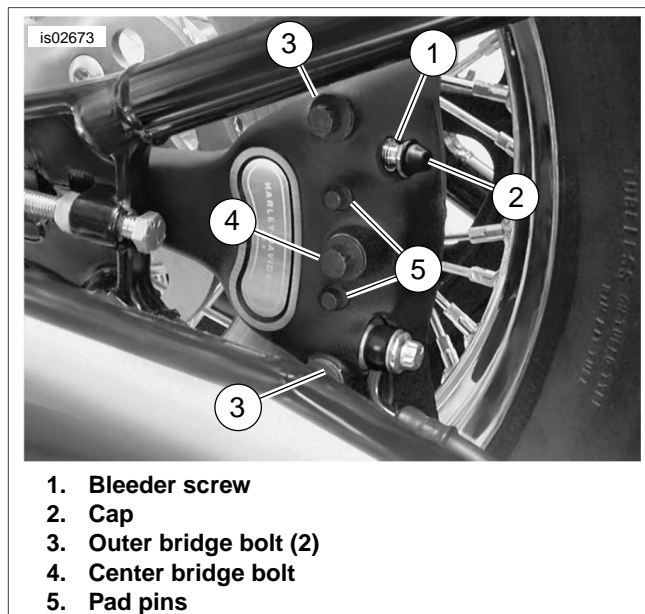
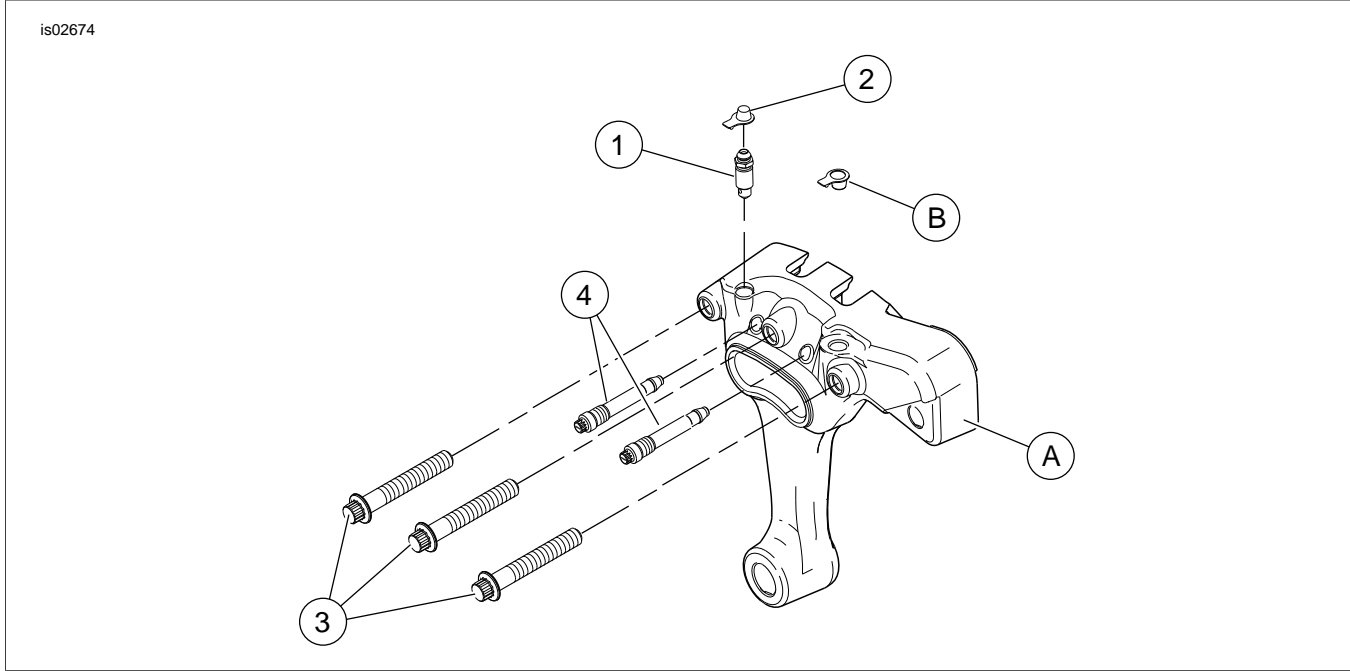

Figure 1. Original Pad Pins and Bleeder Screw on Rear Caliper Brake (Softail Shown)
Figure 2. Service Parts: Chrome Brake Caliper Hardware Kit
See Figure 2 and Table 1.
1. See Figure 1. Remove the existing bleeder screw (1) and bleeder screw cap (2).
2. See Figure 2. Replace the bleeder screw (1) with the screw from the kit. Tighten screw to 80-100 **in-lbs** (9.0-11.3 Nm).
3. Install bleeder screw cap (B).
4. See Figure 1. Remove the center bridge bolt (4) and replace it with one of the bridge bolts from the kit. Tighten to 28-38 **ft-lbs** (38.0-51.5 Nm).
5. Repeat step 4 for the two outer bridge bolts (3).
6. Remove one of the pad pins (5).